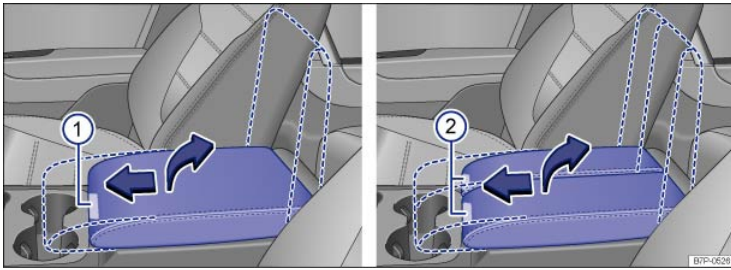

Fig. 46 Between the front seats: 1 part and 2 part front center armrest.
To *slide* (if applicable), press ⇒ Fig. 46① or ⇒ Fig. 46② move the center armrest in the direction of the arrow ⇒ Fig. 46.
To *open*, press button ⇒ Fig. 46① or ⇒ Fig. 46② and lift the center armrest section up completely in the direction of the arrow ⇒ Fig. 46.